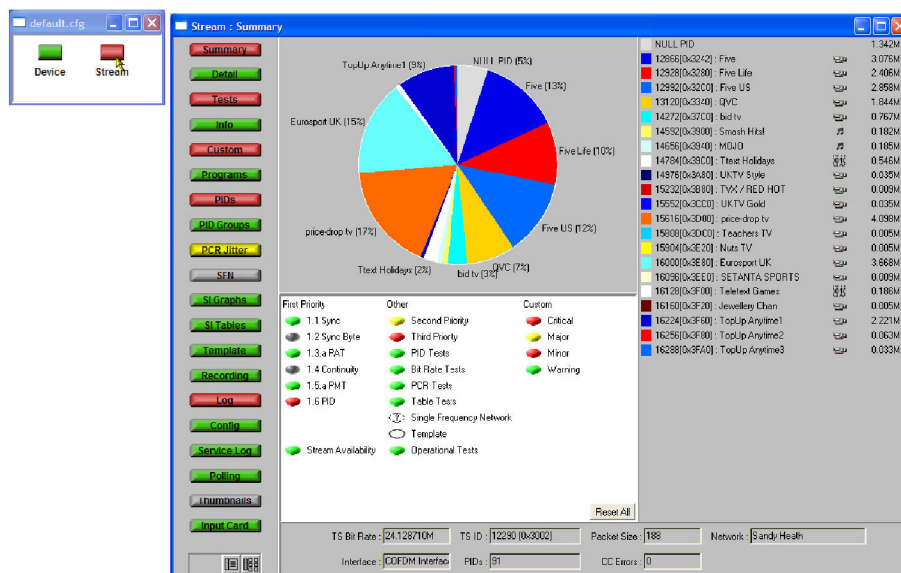

Figure 8: RUI version 2.6.1 display
9. The MTM400 RUI hot spot and Stream Summary windows should now be displayed. (See Figure 8.)